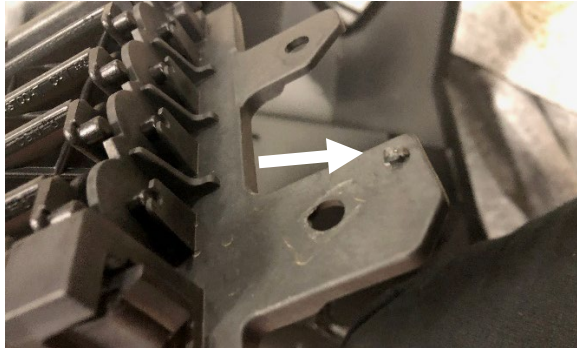

Figure 17
16. With the louvers removed, use a cutting tool to remove the plugs on both sides. (Figure 17)